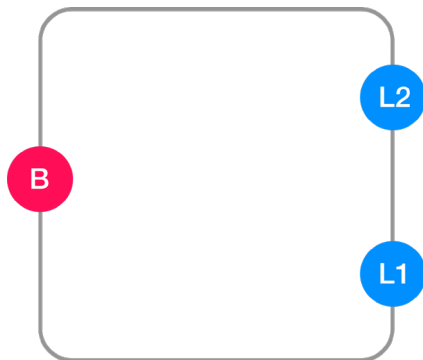

Figure 3.1: Icebreaker layout at the start
- Mark an area on the floor similar to figure 3.1.